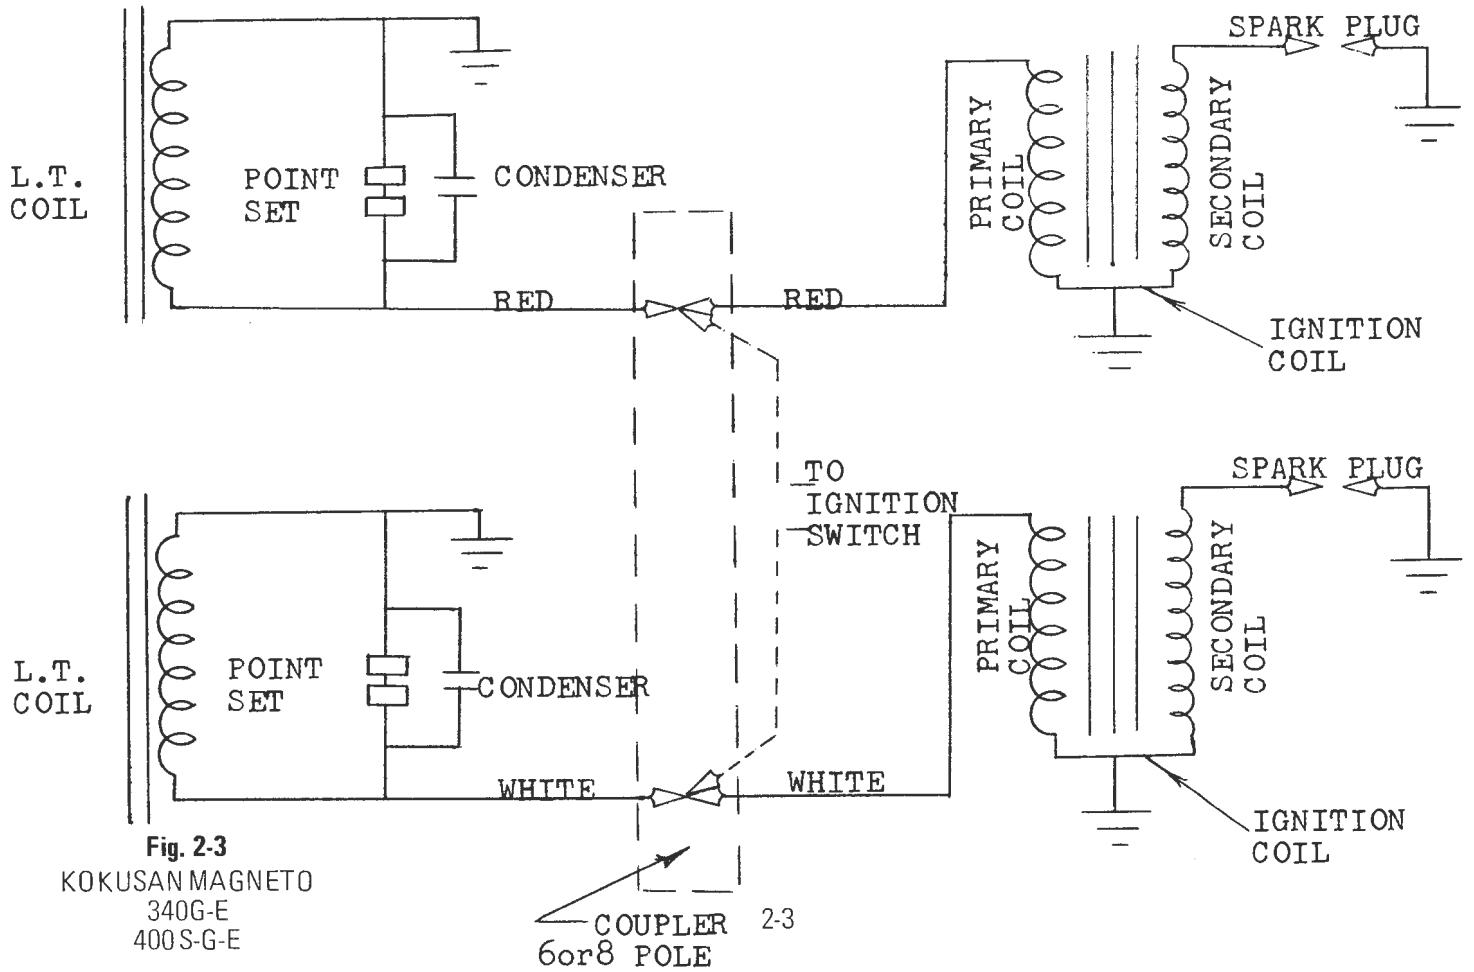

Fig. 2-3
2.3.2.2 Kokusan Ignition (See Figure 2-3)